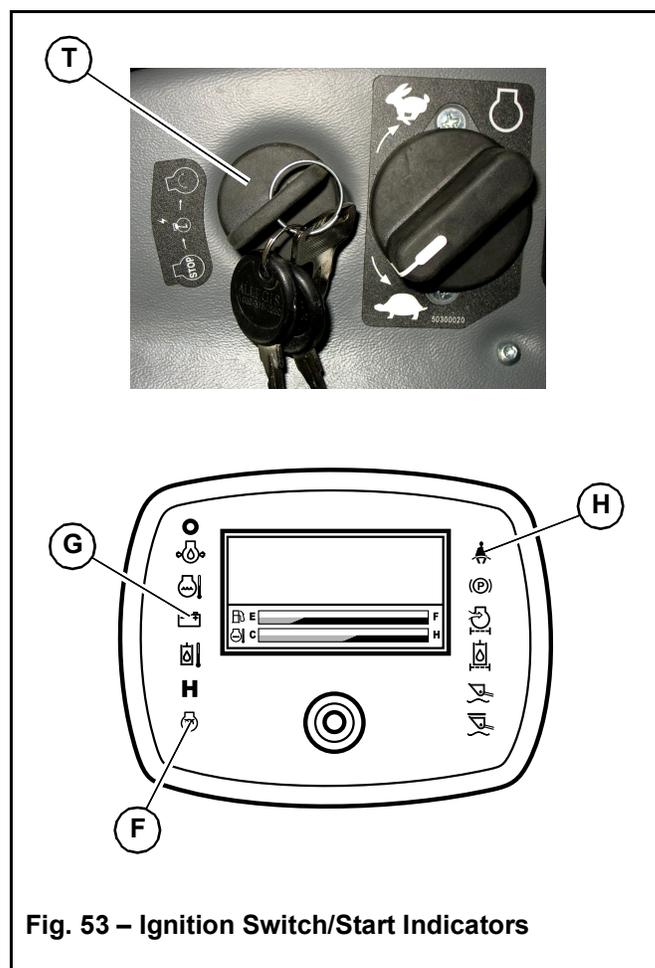

Fig. 53 – Ignition Switch/Start Indicators
6. Insert the ignition key into the ignition switch (T, Fig. 53) and turn the key clockwise to the first detent. Wait for the multi-purpose display to initialize completely. Indicators on the multi-function display should light up; a beeping tone will sound for a few moments as a reminder to fasten the seat belt. The battery voltage and pre-heat indicators might stay lit for 3-30 seconds.
Check that charge (G, Fig. 53) indicator goes out after the engine starts.